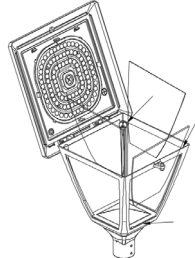

Fig.16
2. Insert lens into light frame card slot, as shown in Fig16.